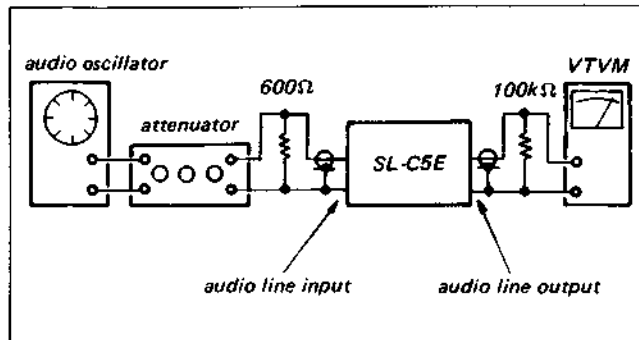

Fig. 3-50. Connections
The connections of the equipments to the input/output terminals are shown in Fig. 3-50.
3. Adjust the azimuth adjustment screw on the audio head for a maximum VTVM reading. (See Fig. 3-50).